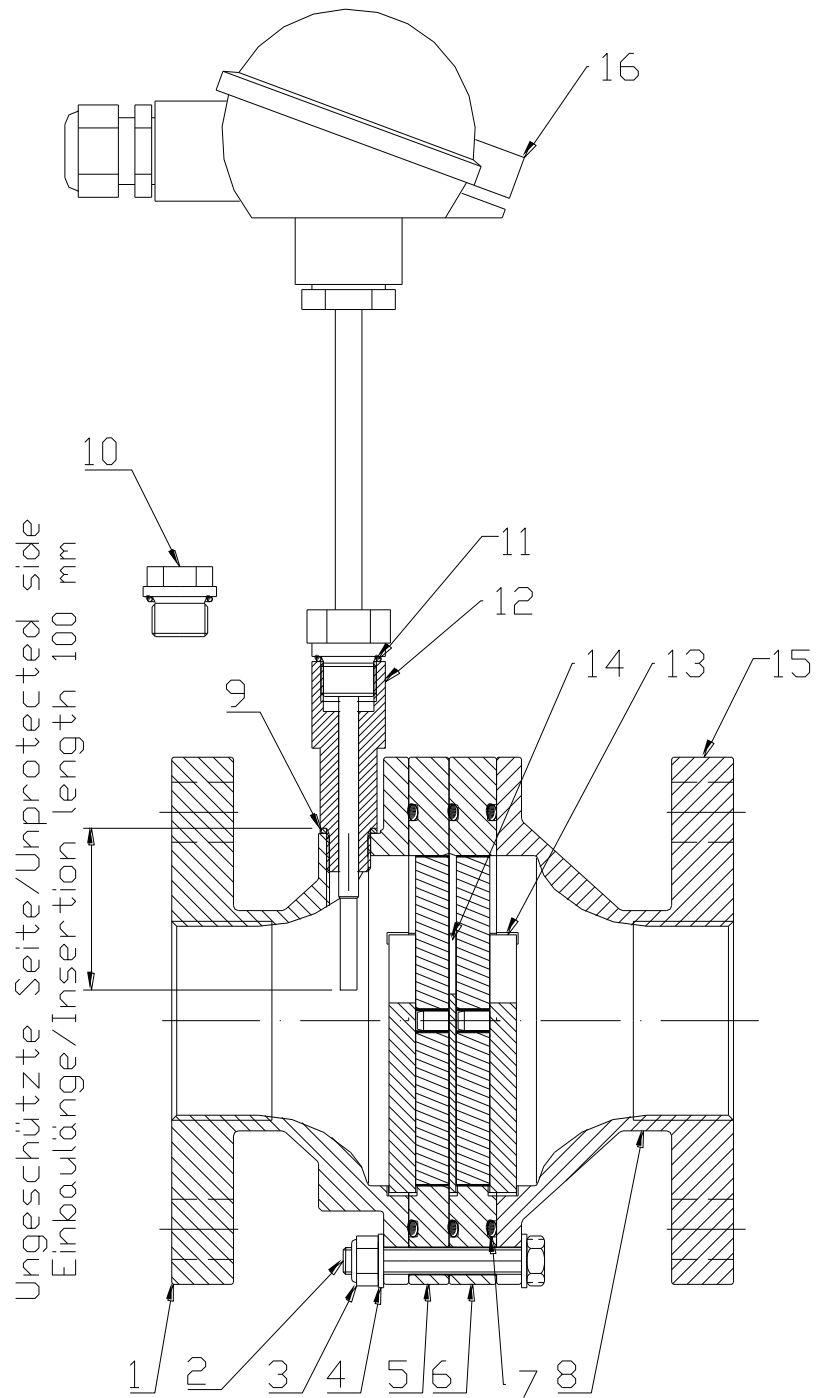

Fig. 1
(See figure 1)
- Spare part no. (Please refer to **fig. 1** for items)